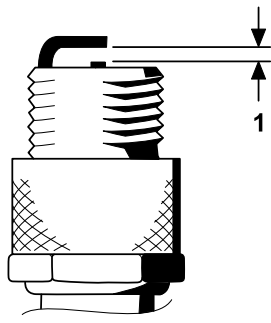

Figure 38
4. Set the air gap between the center and side of the electrodes at 0.76 mm (0.030 inches) as shown in Figure 38.